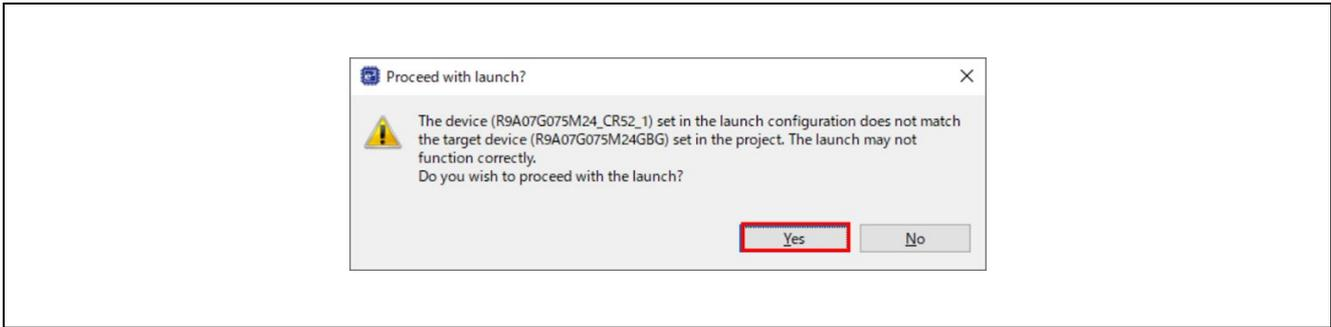

Figure 46. Warning Window of Device Name
4. When Figure 46 is shown, please click **Yes** to proceed with the launch.